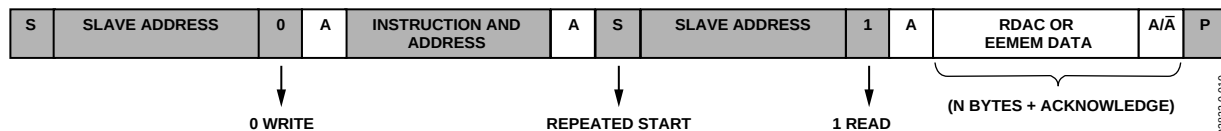
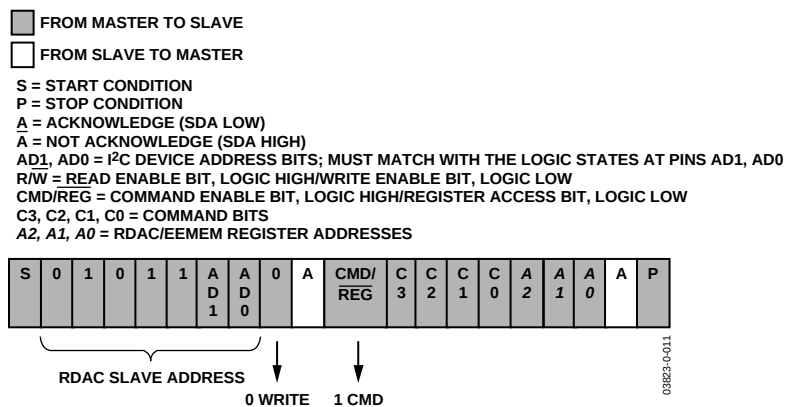
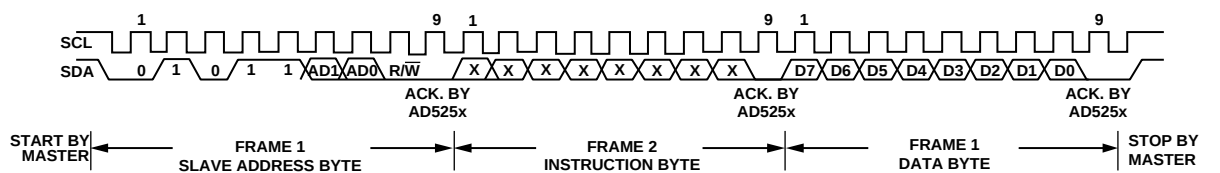
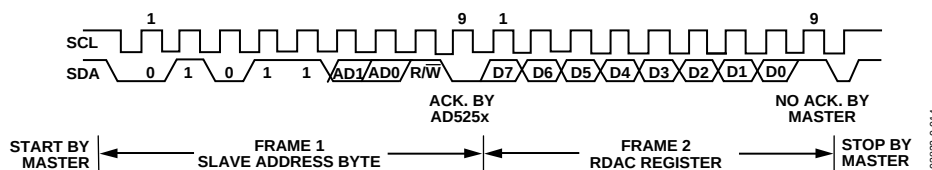

Figure 30. RDAC or EEMEM Random Read
Figure 31. RDAC Quick Command Write (Dummy Write)
Figure 33. General I²C Write Pattern
Figure 34. General I²C Read Pattern
Figure 30 illustrates a random RDAC or EEMEM read operation. This operation allows users to specify which RDAC or EEMEM register is read by issuing a dummy write command to change the RDAC address pointer and then proceeding with the RDAC read operation at the new address location.
The AD5251/AD5252 feature 12 quick commands that facilitate easy manipulation of RDAC wiper settings and provide RDAC-to-EEMEM storing and restoring functions. The command format is shown in Figure 31, and the command descriptions are shown in Table 9.
The first byte of the AD5251/AD5252 is a slave address byte (see Figure 33 and Figure 34). It has a 7-bit slave address and an $R/\overline{W}$ bit. The 5 MSB of the slave address is 01011, and the next 2 LSB is determined by the states of the AD1 and AD0 pins. AD1 and AD0 allow the user to place up to four AD5251/AD5252 devices on one bus.
AD5251/AD5252 can be controlled via an I²C-compatible serial bus and are connected to this bus as slave devices. The 2-wire I²C serial bus protocol (see Figure 33 and Figure 34) follows:
1. The master initiates a data transfer by establishing a start condition, such that SDA goes from high to low while SCL is high (see Figure 33). The following byte is the slave address byte, which consists of the 5 MSB of a slave address defined as 01011. The next two bits are AD1 and AD0, I²C device address bits. Depending on the states of their AD1 and AD0 bits, four AD5251/AD5252 devices can be addressed on the same bus. The last LSB, the R/ $\overline{W}$ bit, determines whether data is read from or written to the slave device.
the addresses of the EEMEM and RDAC registers (see Figure 27 and Figure 28). When MSB = 1 or when the device is in CMD mode, the four bits following the MSB are C3 to C1, which correspond to 12 predefined EEMEM controls and quick commands; there are also four factory-reserved commands. The 3 LSB—A2, A1, and A0—are addresses, but only 001 and 011 are used for RDAC1 and RDAC3, respectively (see Figure 31). After acknowledging the instruction byte, the last byte in the write mode is the data byte. Data is transmitted over the serial bus in sequences of nine clock pulses (eight data bits followed by an acknowledge bit). The transitions on the SDA line must occur during the low period of SCL and remain stable during the high period of SCL (see Figure 33).
3. In current read mode, the RDAC0 data byte immediately follows the acknowledgment of the slave address byte. After an acknowledgement, RDAC1 follows, then RDAC2, and so on. (There is a slight difference in write mode, where the last eight data bits representing RDAC3 data are followed by a no acknowledge bit.) Similarly, the transitions on the SDA line must occur during the low period of SCL and remain stable during the high period of SCL (see Figure 34). Another reading method, random read method, is shown in Figure 30.
4. When all data bits have been read or written, a stop condition is established by the master. A stop condition is defined as a low-to-high transition on the SDA line that occurs while SCL is high. In write mode, the master pulls the SDA line high during the 10th clock pulse to establish a stop condition (see Figure 33). In read mode, the master issues a no acknowledge for the ninth clock pulse, that is, the SDA line remains high. The master brings the SDA line low before the 10th clock pulse and then brings the SDA line high to establish a stop condition (see Figure 34).